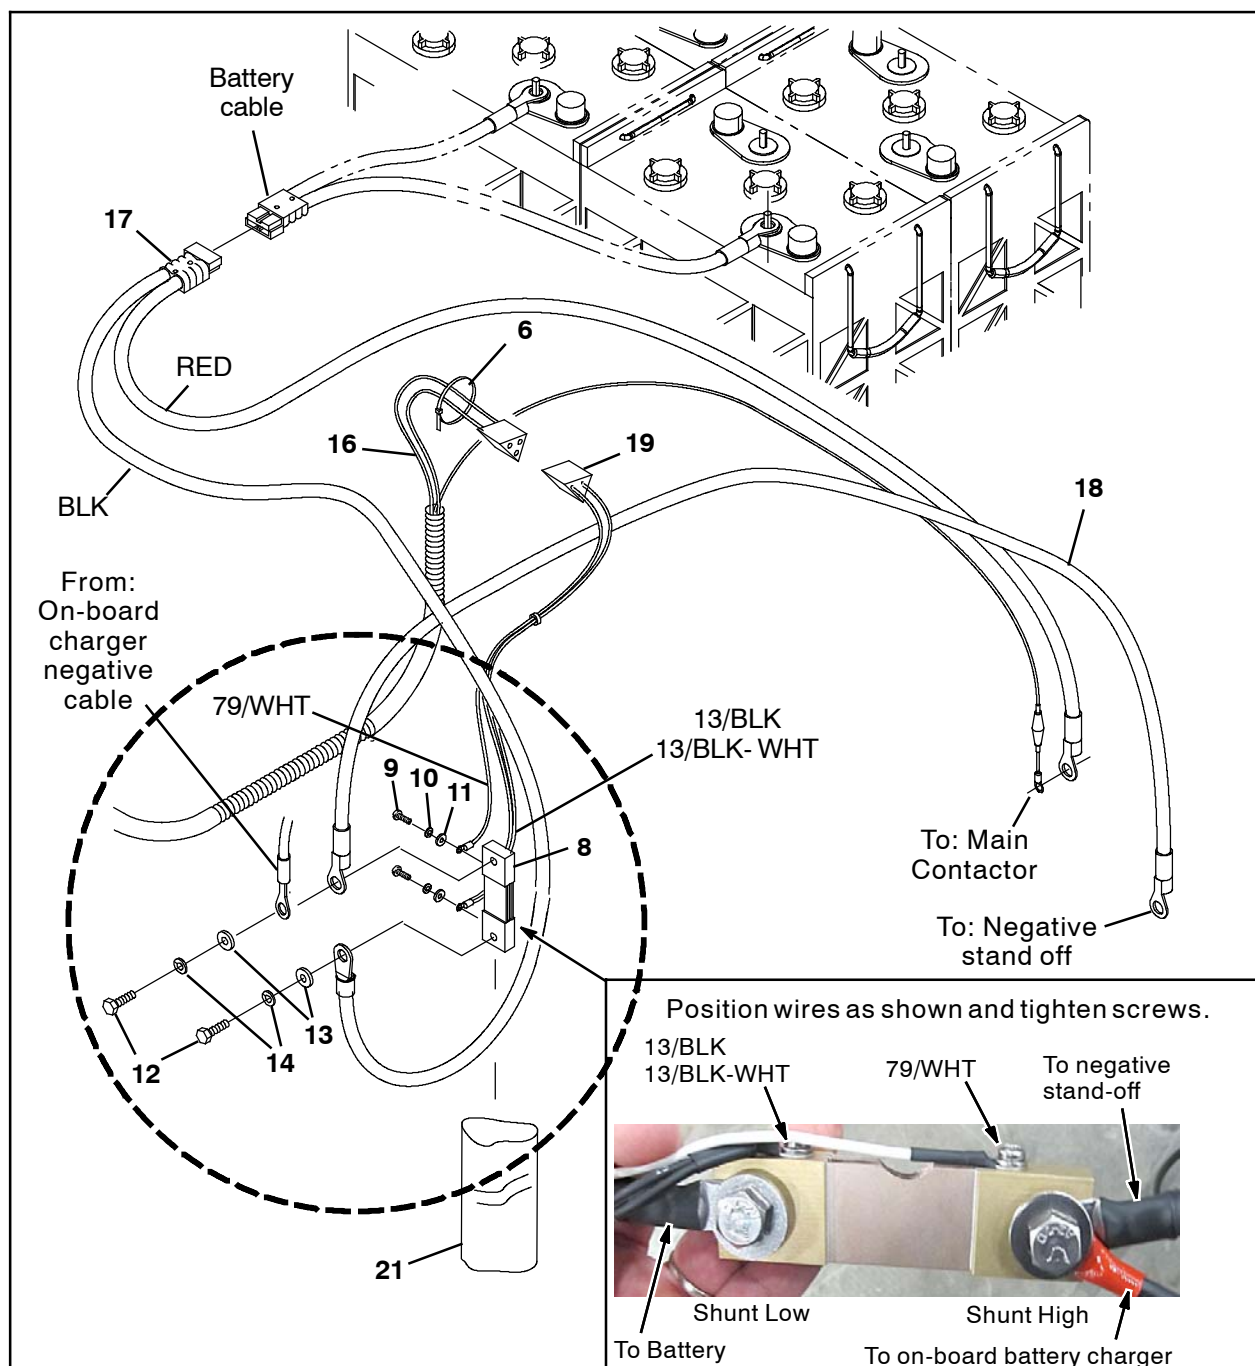

Fig. 7
7. Use one M8 hex screw (12), one flat washer (13), and one lock washer (14) to connect the cable assembly(17) BLACK cable to the shunt (8). (Fig. 7)
8. Use one M8 hex screw (12), one flat washer (13), and one lock washer (14) to connect the black cable (18) to the shunt (8). (Fig. 7)
Models equipped with onboard battery charger: Connect the charger's negative battery cable to shunt (8). (Fig. 7)
9. Use one M4 pan screw (9), one lock washer (10), and one flat washer (11) to connect the telemetry shunt harness (19) 79 / WHT wire to the end of the shunt (8) with cable (18). (Fig. 7)
10. Use one M4 pan screw (9), one lock washer (10), and one flat washer (11) to connect the telemetry shunt harness (19) 13 / BLK 13 / BLK- WHT wires to the end of the shunt (8) with the cable assembly(17) black cable. (Fig. 7)